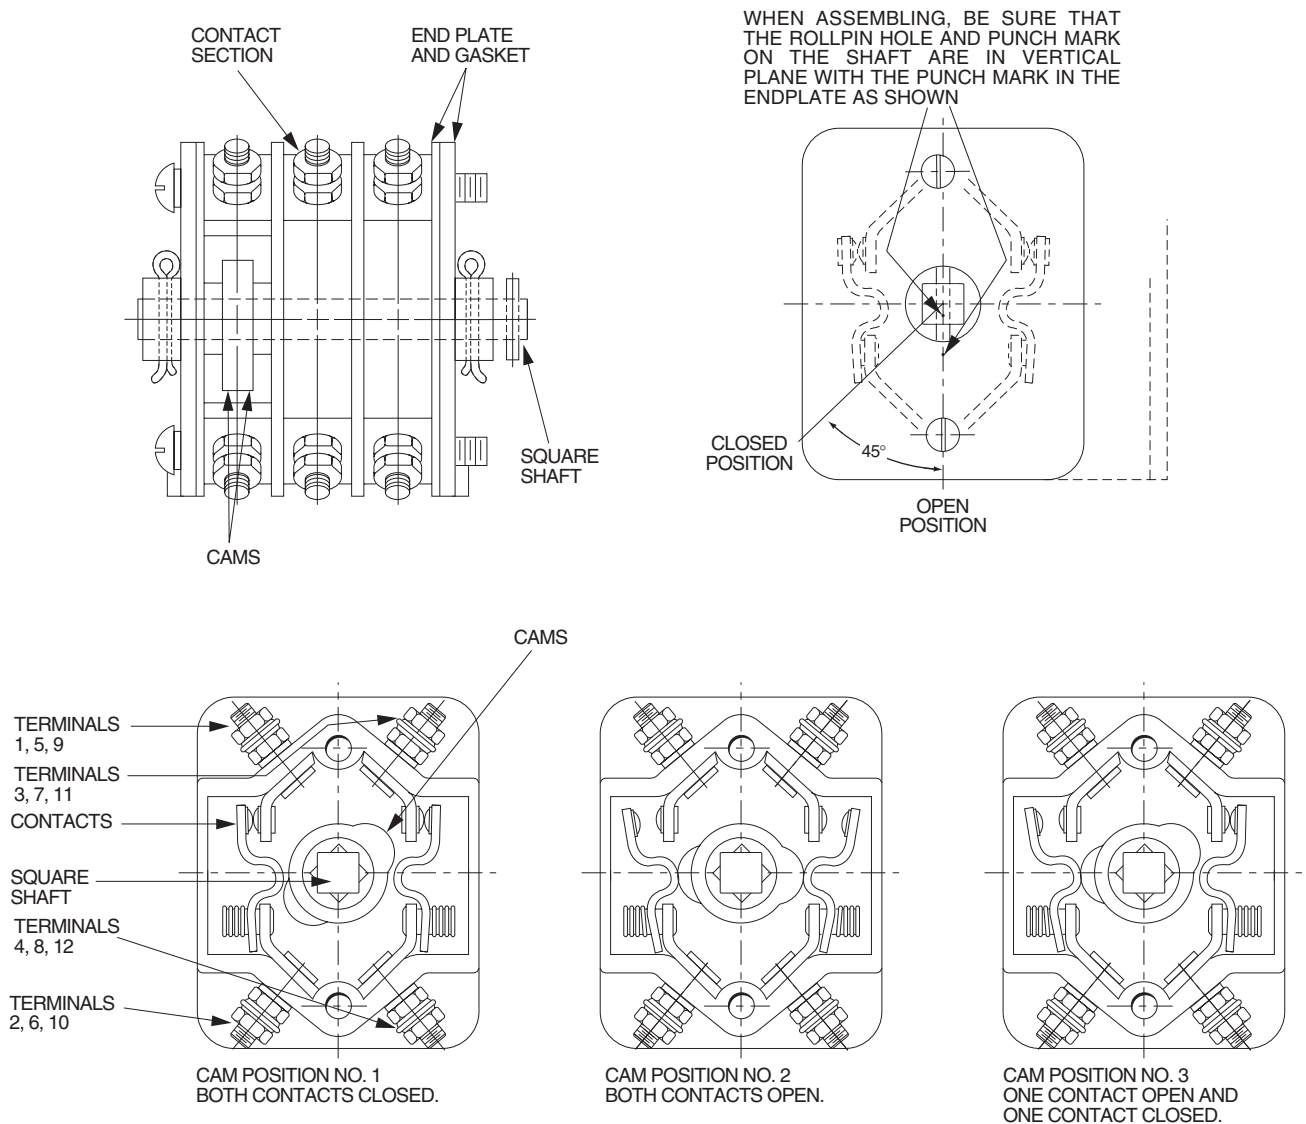

Figure 28. Auxiliary switch cam positions
7. Replace the cams in one of the positions shown in Figure 28.